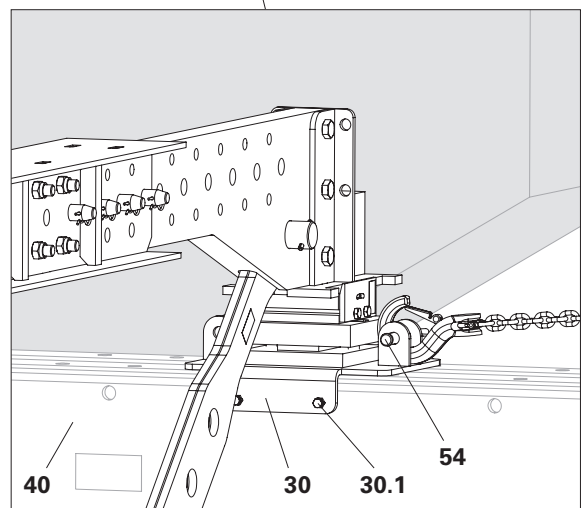

Fig. G1.01a
- To avoid a collision with the bolts of the main beam, remove the bolts (30.1) of the centring plate. (Fig. G1.01a)